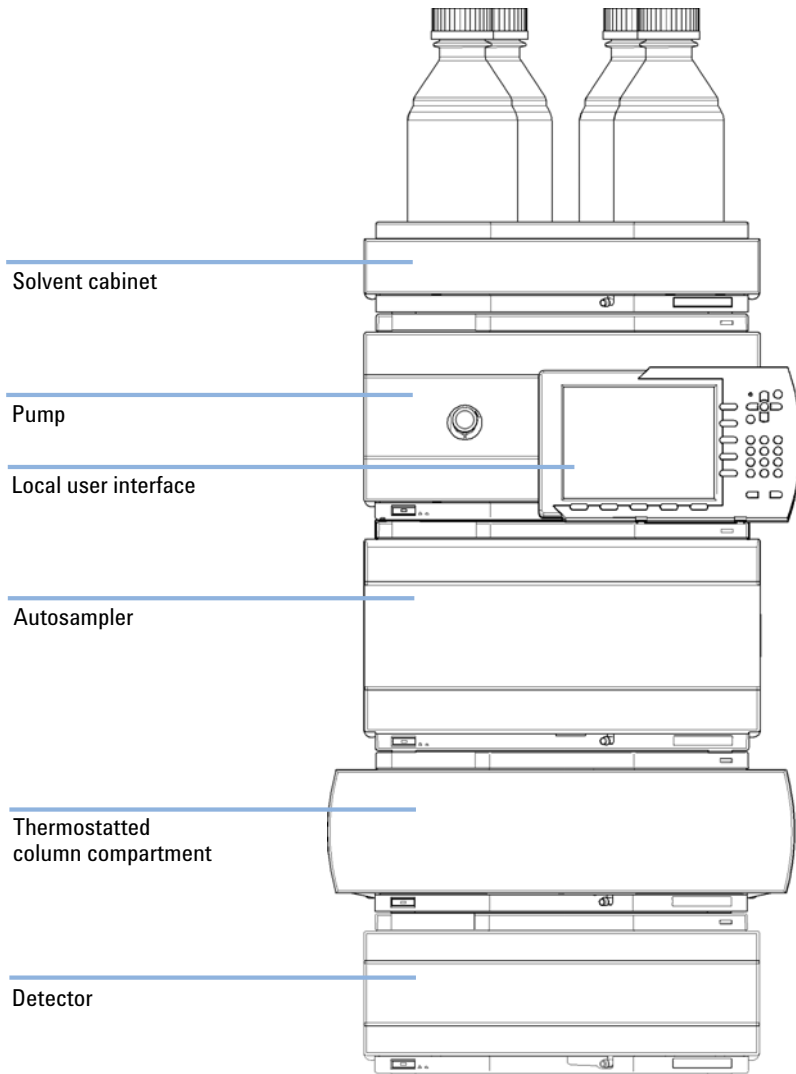
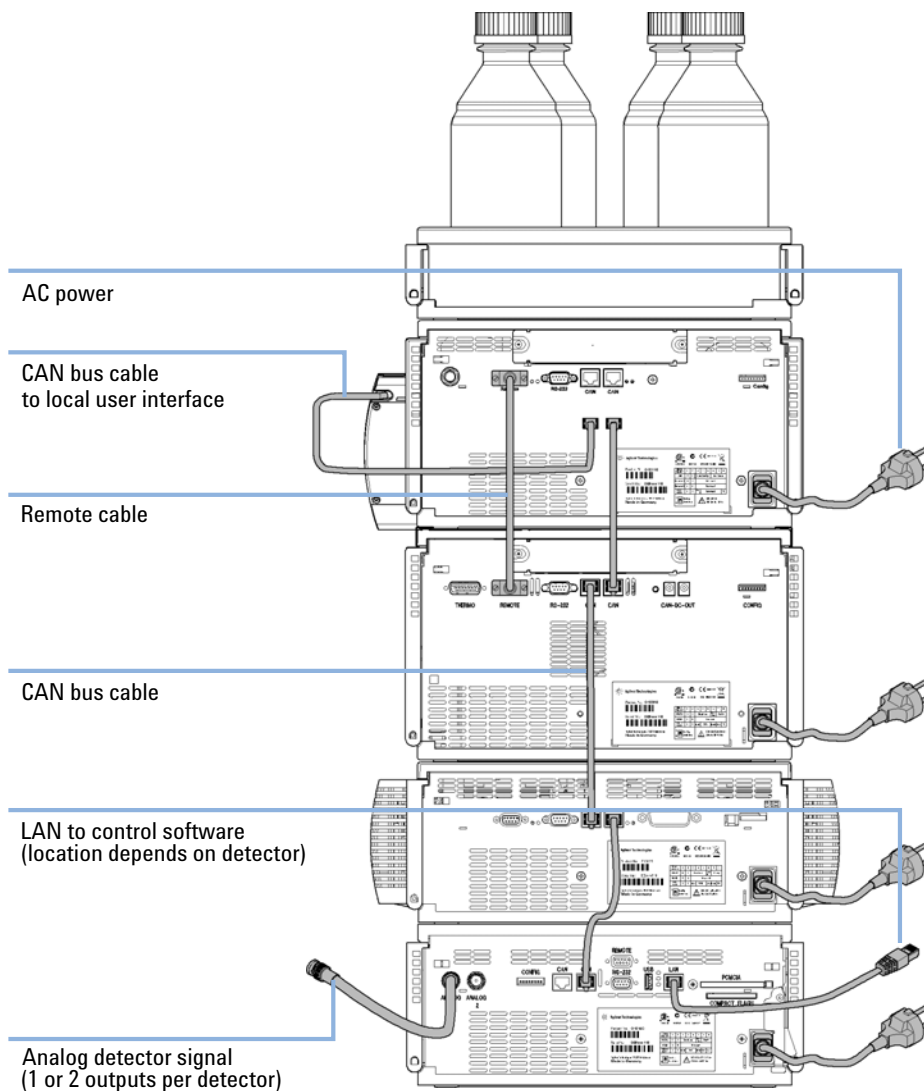

Figure 5 Recommended Stack Configuration (Front View)
Figure 6 Recommended Stack Configuration (Rear View)
Ensure optimum performance by installing the modules of the Agilent 1260 Infinity LC System in the following configuration (see Figure 5 on page 31 and Figure 6 on page 32). This configuration optimizes the flow path for minimum delay volume and minimizes the bench space required.
- 1 Place the individual modules in a stack configuration as shown in Figure 5 on page 31.
- 4 Connect the CAN cable to the CAN connector of the next module, see Figure 6 on page 32.